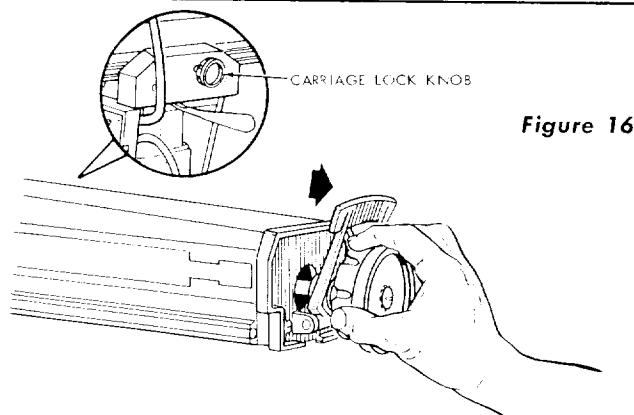

Figure 16
- Loosen the arm latch knob by rotating it counterclockwise until it stops. (See figure 16.) This will free the radial arm, permitting it to be moved from right to left, by hand. Also, make sure the carriage lock knob (figure 16) is loose enough to permit the carriage to move freely back and forth on the arm.